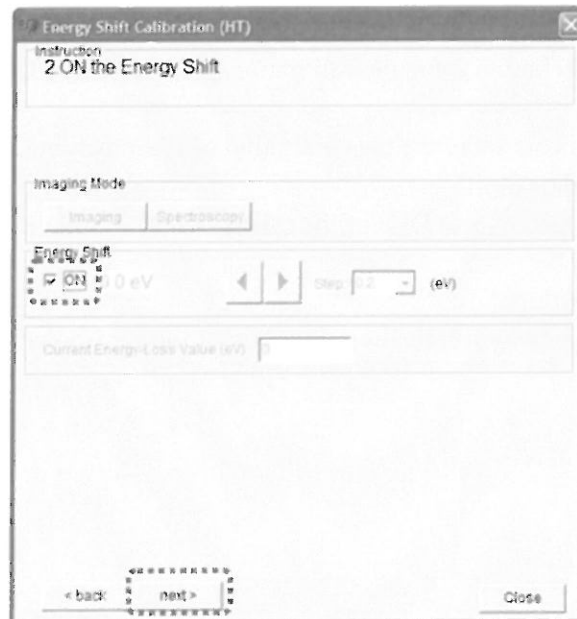

Fig. 5.38 Energy Shift Calibration (HT) - 2. ON the Energy Shift
2. Follow “Instruction — 2. ON the Energy Shift” and select the check box to turn ON the Energy Shift (Fig. 5.38). After checking that the Energy Shift is **ON**, press the **next** button and proceed to the next window.